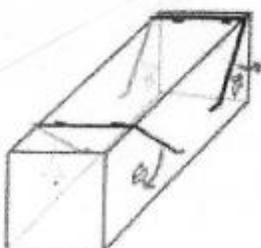

FIGURE 4
3. Pull down the two sets of U-shaped support arms and fix them into the fixing clips on each side of the trap (Fig. 4). The support arms should be fixed in place to support the trap.